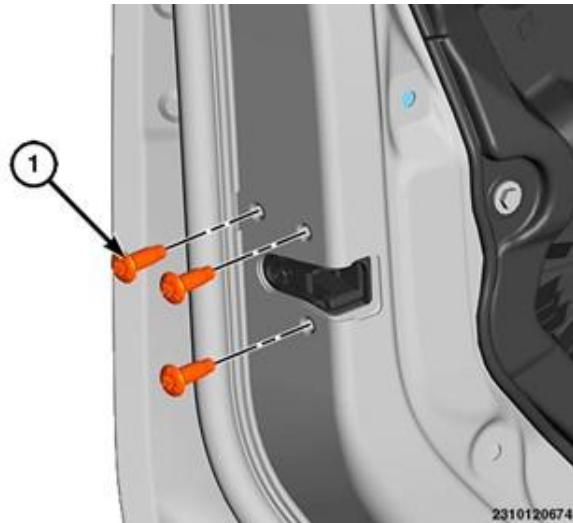

Figure 15 – Door Latch
26. Remove the front door latch mounting screws (1) (Figure 15).
46. Install the door latch mounting screws (1) and tighten to 7 N·m (62 in. lbs.) (Figure 15).